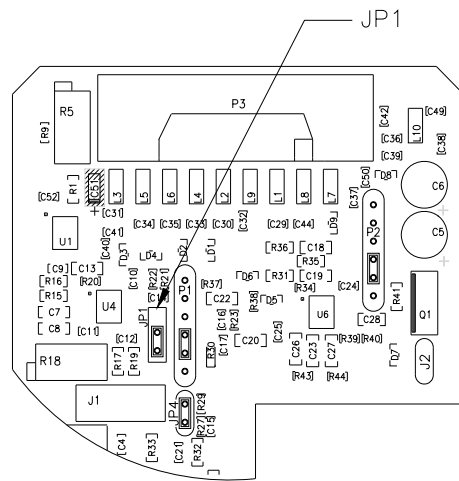

Fig. 2.2
2.7.3. Operation with an external sensor (Fig. 2.2)
- 1) Cover the pins of JP4 with a jumper. (see fig. 2.2)